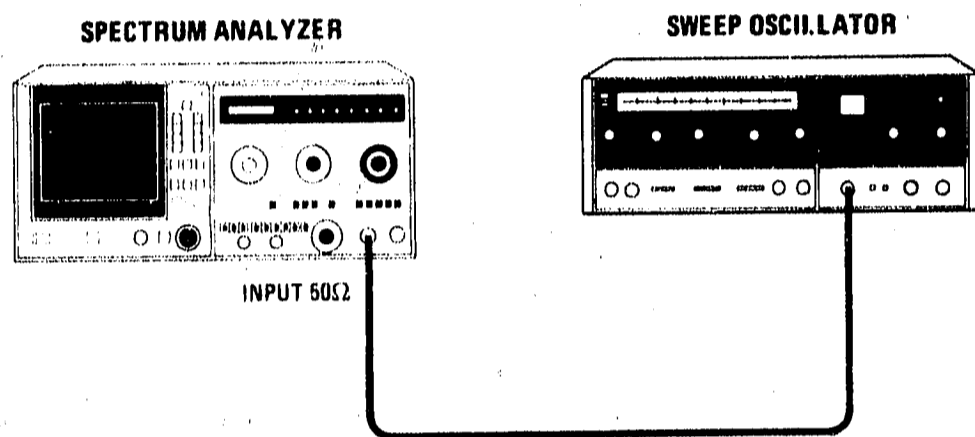

Figure 5-51. YTF Tracking Adjustment Test Setup
- 2. Reconnect power cord, set LINE switch ON, and connect equipment as shown in Figure 5-51. Set all normal (green) spectrum analyzer settings, except as indicated, and other controls as follows: